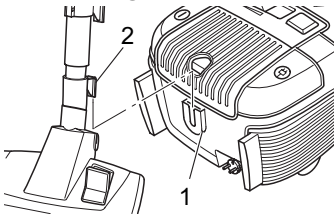

Fig. 15
- For **storage** or during work breaks, you can use the parking hook mount (Fig. 15/1) to hook the parking hook (Fig. 15/2) onto the floor nozzle (Fig. 15).